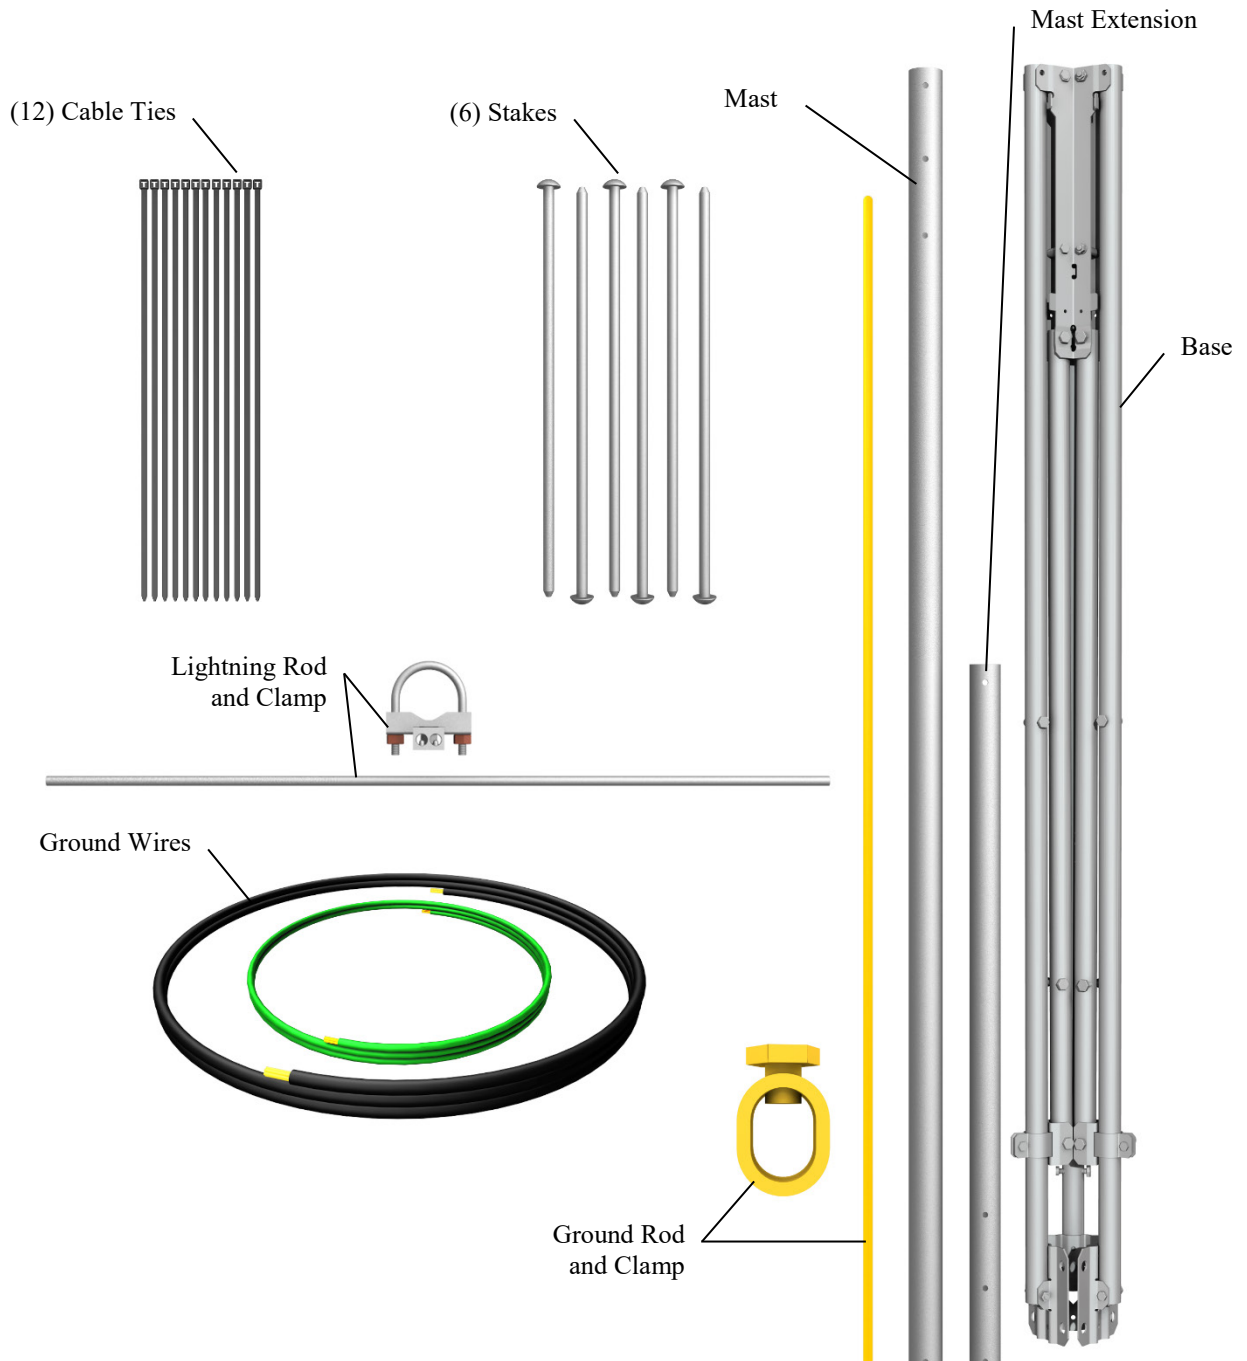

FIGURE 3-1. Tripod components
FIGURE 3-1 shows the tripod components. The tripod base is packaged with the mast, mast extension, ground rod, lightning rod, and (6) stakes. The ground rod clamp, lightning rod clamp, cable ties, and ground wires are enclosed in a bag. The optional guy kit is packaged separately.